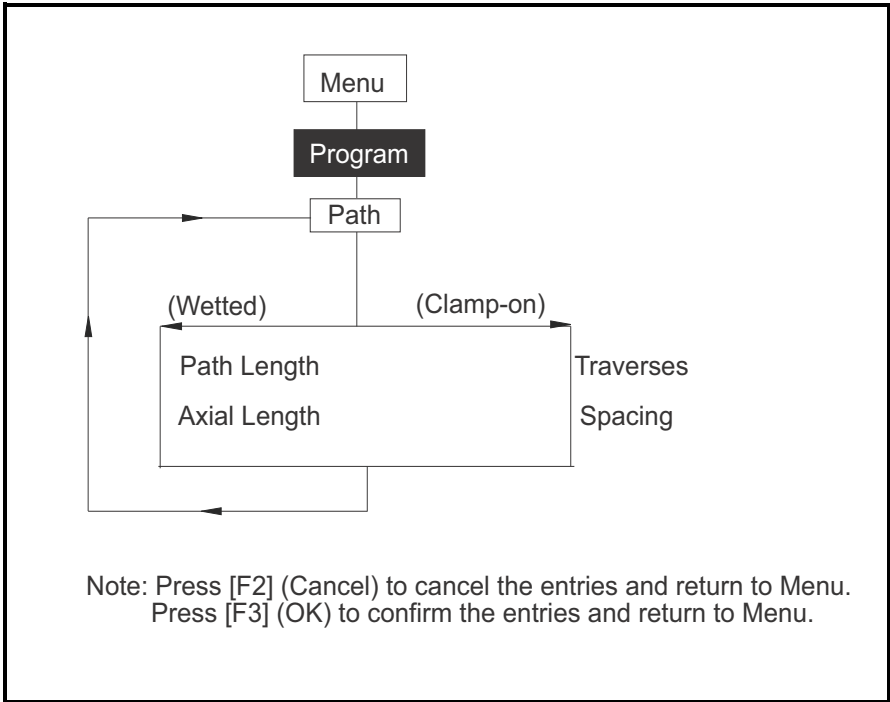

Figure 146: Path Option
- Path Option - Figure 146 on page 230